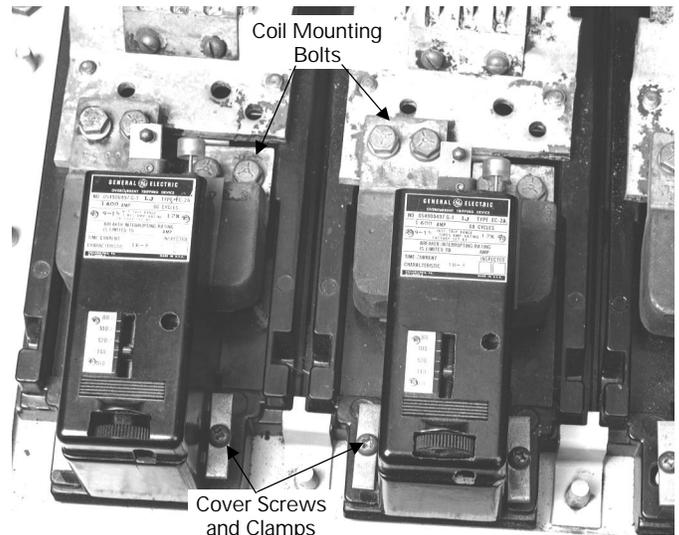

Figure 3. EC trip devices before removal.
1. Remove and discard the two screws at the base of each trip device, as shown in Figure 3. Discard the metal mounting brackets (some units have a single C-shaped bracket).